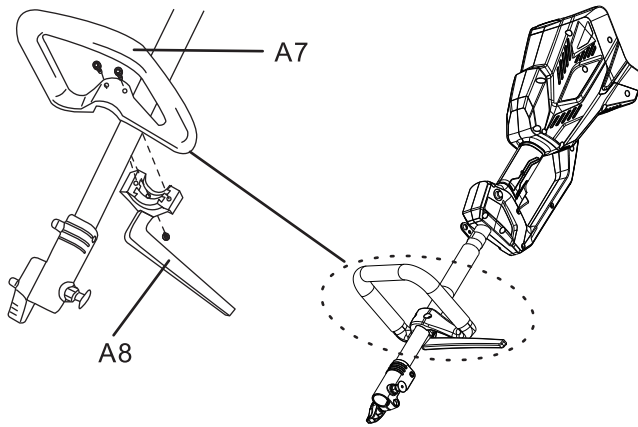

Fig. 1
3). Place the handle onto the shaft from the top and secure it with the longer screws. Tighten them with the hex key 4mm (F3). (See Fig. 1)